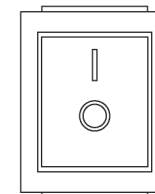

Figure 19
- ▶ While charging, turn on the power switch on the battery box of the electric wheelchair and turn off the controller power button. Note: the power switch on the battery box is turned off when delivered. Make sure to turn on the power switch while charging. The switch is located on the back of the right battery box: "I": ON and "O": OFF, see Figure 19.
- Turn on the battery switch on the battery box and press "I" to switch it into normal operating condition, see Figure 19.